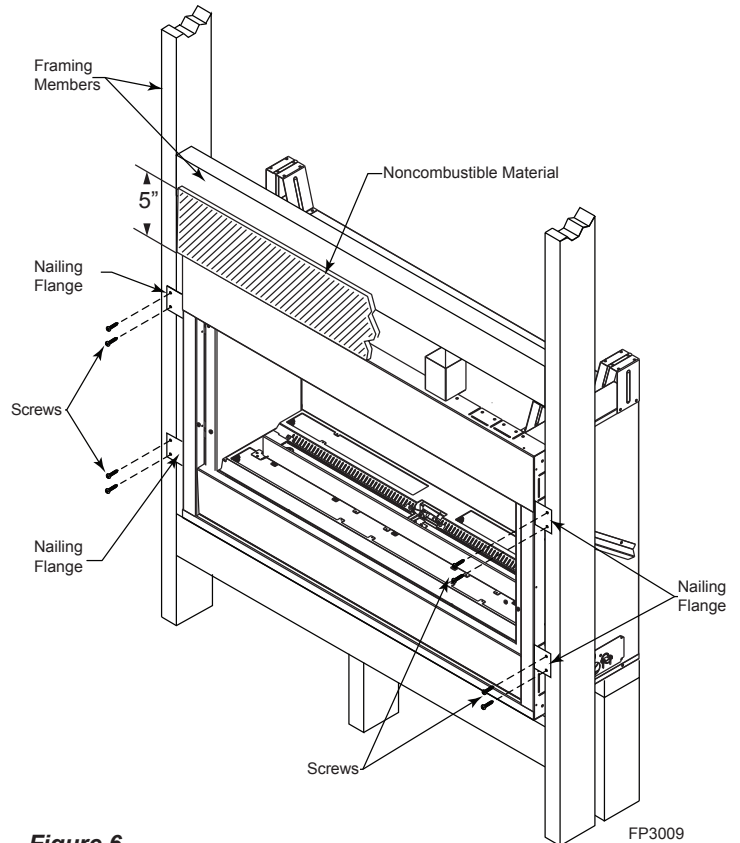

Figure 6 – Secure Fireplace to Framing Studs
The fireplace must be secured to the framing studs as shown in *Figure 6*. Use eight (8) screws to attach fireplace to framing. The side nailing flanges are 1/2" or 5/8" to accommodate different wall thickness.